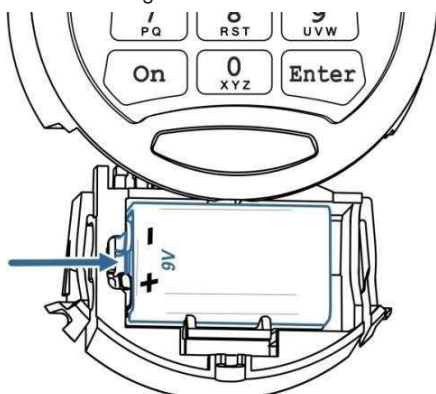

Fig. 5.2
- Disconnect the battery from the contact points, on the right hand side, as shown in Fig.5.2